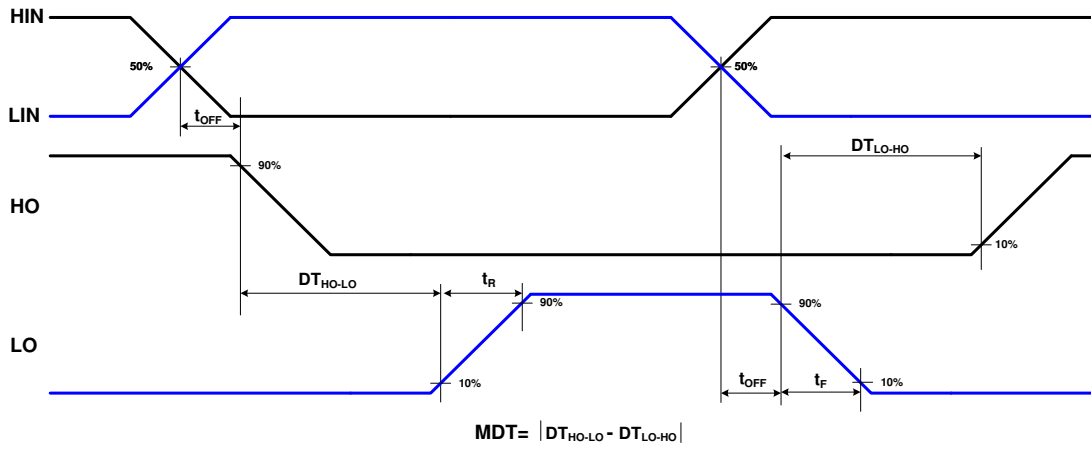

Figure 40. Internal Dead Time Definition
8. MDT is defined as $|DT_{HO-LO}-DT_{LO-HO}|$ referenced to Figure 40.